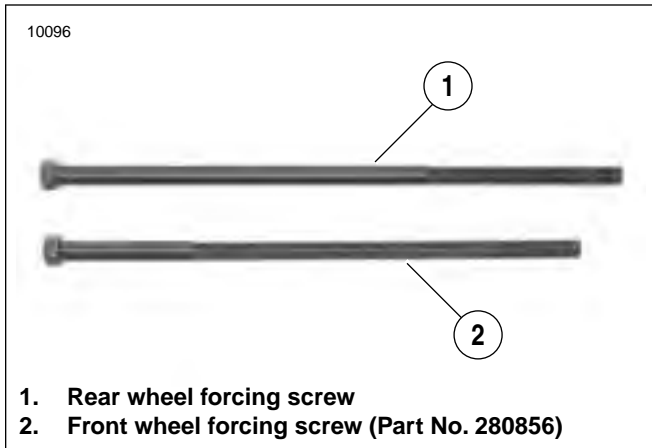

Figure 2-24. Forcing Screws Used for Front and Rear Wheel Bearing Installation
- See Figure 2-24. When installing rear wheel bearings it is necessary to use the FORCING SCREW (1) from the STEERING HEAD BEARING RACE INSTALLER (Part No. HD-39302).
1. Install wheel bearing (3) on rotor side of motorcycle.
2. Install rear wheel spacer (4).
3. Install wheel bearing (3) on sprocket side of motorcycle.
- a. Position sprocket (6) on wheel (5) keeping lip of sprocket facing the inside.
- b. Install **new** sprocket fasteners (7) and washers tightening to 35-37 ft-lbs (48-50 Nm).
5. Install rear rotor (2).
- a. Position rear brake rotor (2) on wheel (5).